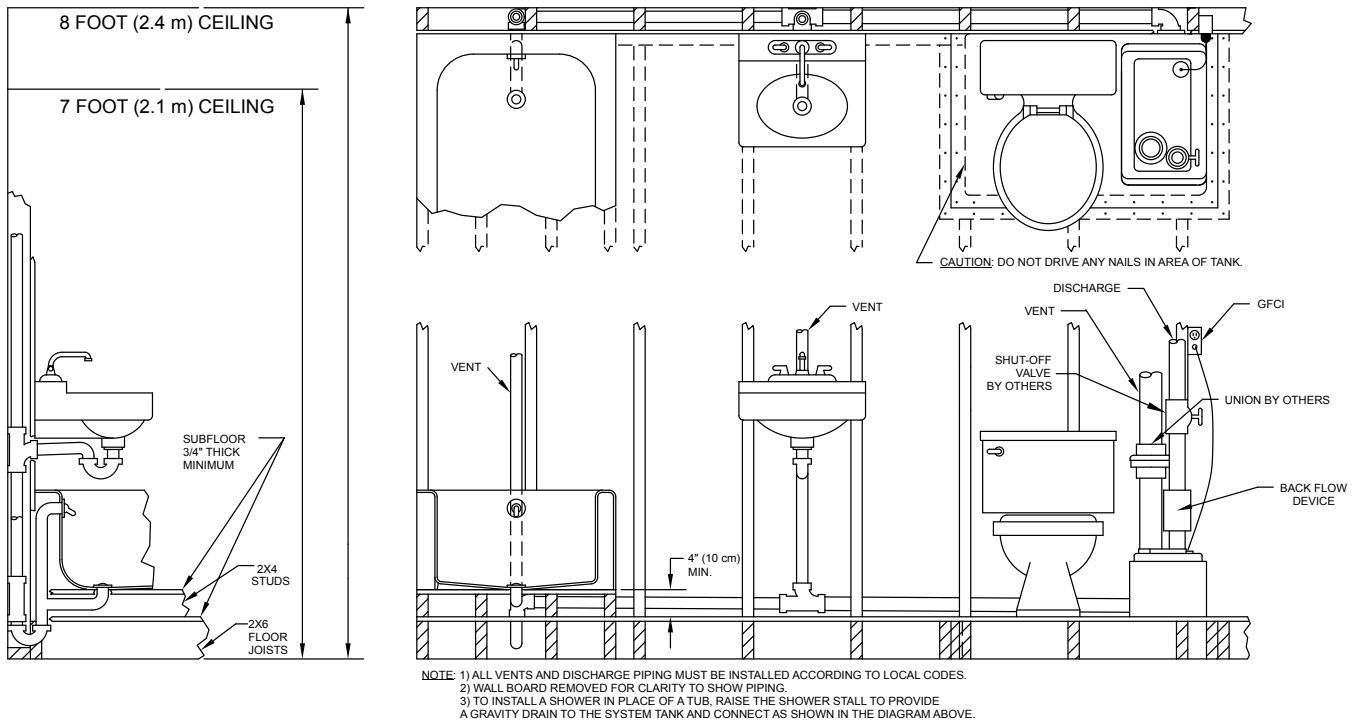

Figure 9.2
- 9.6) Refer to Figures 9.2 - 9.5 for Typical installation of Tubs & Lavatories.